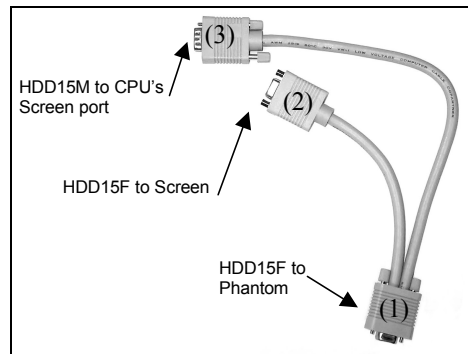

Figure 5-13 The Slave LWS Screen In/Out cable
Figure 5-13 illustrates the **Slave** Screen In/Out cable
1. Connect the cable's connector #(1) – see Figure 5-13 below - to the **Slave Unit's** Screen In/Out port.
3. Connect the cable's connector #(3) to the screen port on the CPU's rear panel.